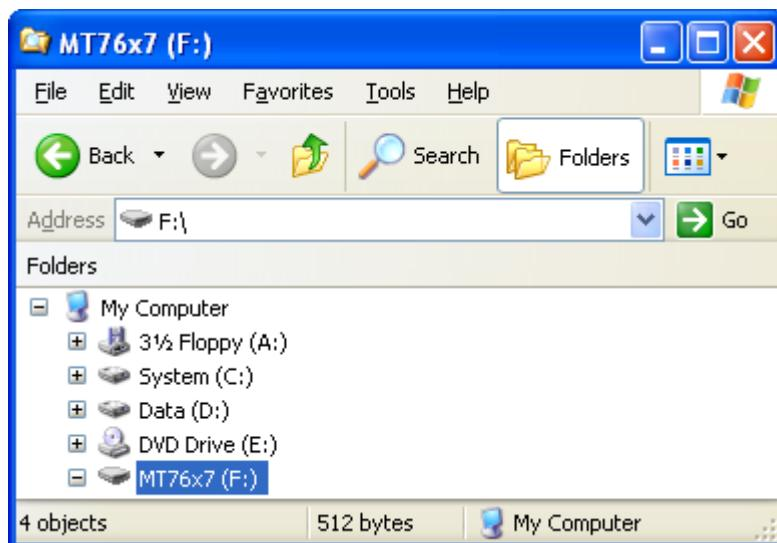

Figure 10. New removable storage detected
- 10) Navigate to **Computer** on your PC to check if a new mass storage named **MT76x7** is available under **Removable Disk**, as shown in Figure 10.